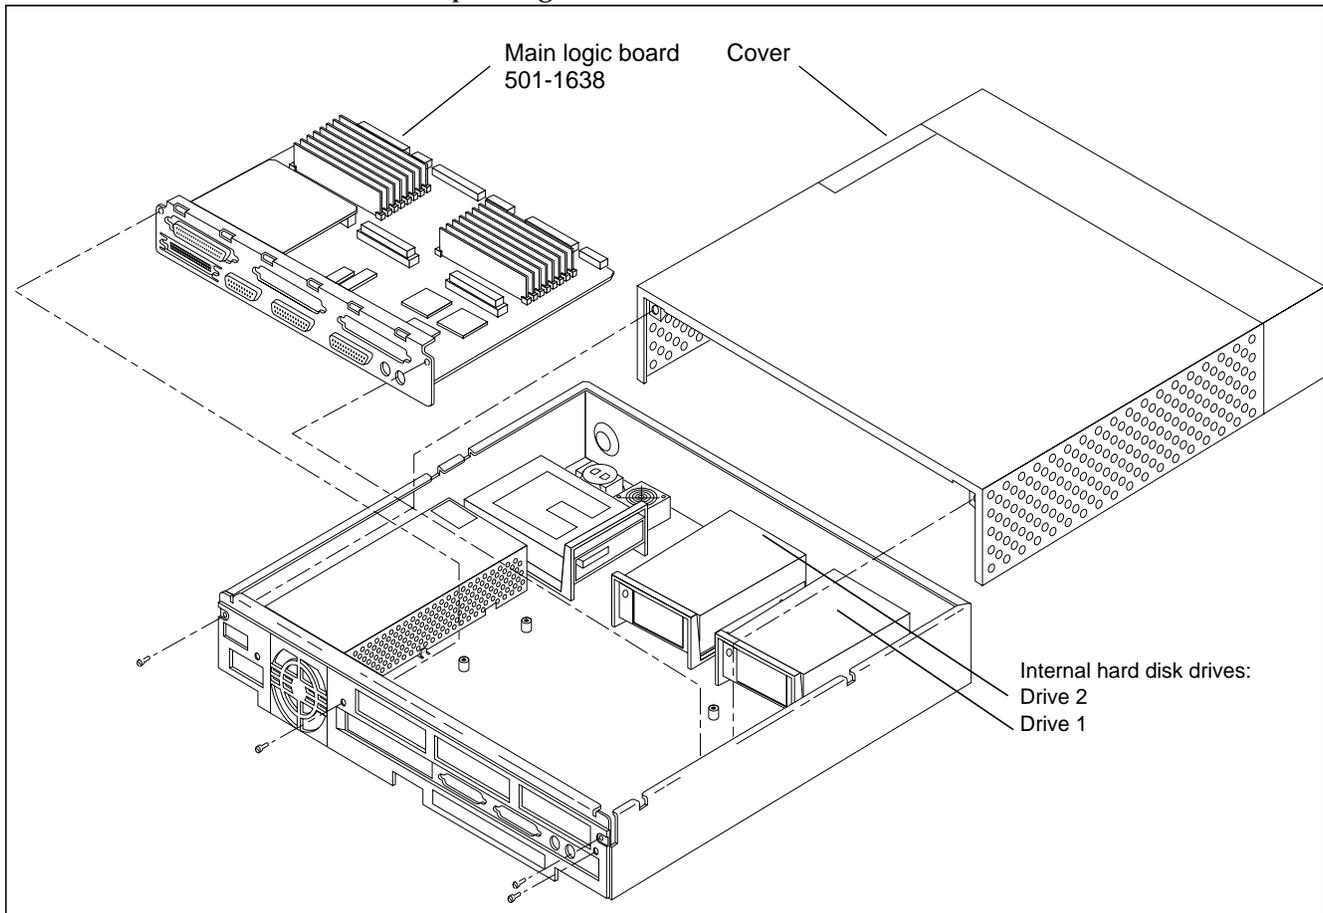
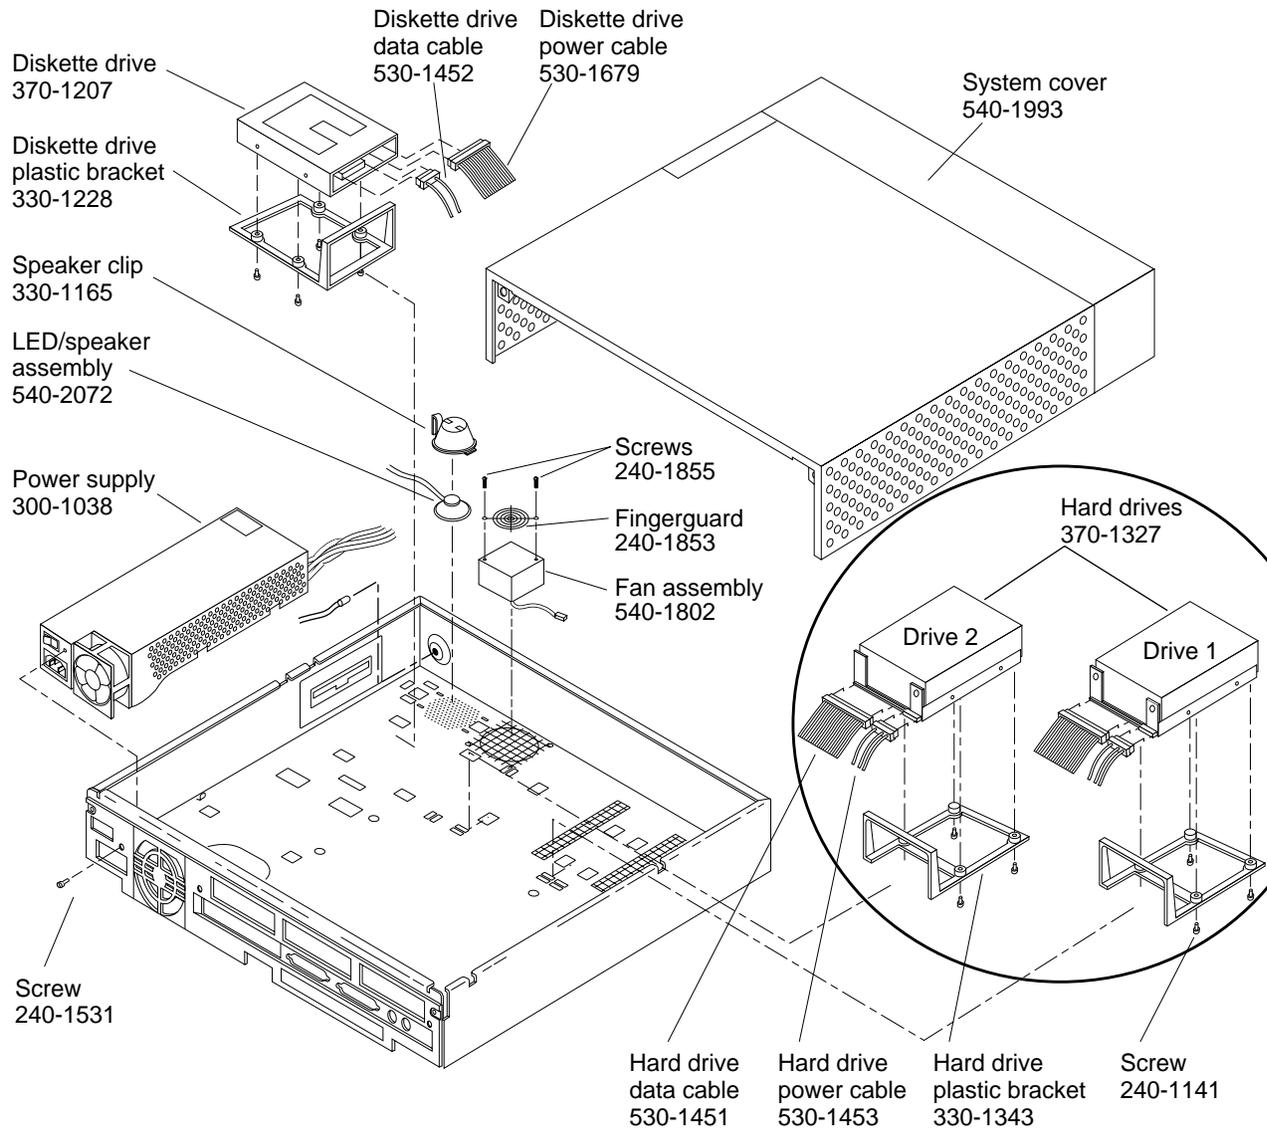

Figure 2-1 Exploded View of the System Unit
Figure 2-2 Exploded View of the System Unit Showing Internal Hard Drives
Before you attempt to replace or install a new internal hard disk drive, make sure that you have the right unit. Hard disk drives can be located in the center and left side of the front of the System Unit chassis (See Figure 2-1 and Figure 2-2).
- 2. Disconnect the hard disk drive power and data cables from the main logic board (These are identified in Figure 2-2).**
- 3. Remove the power and data cables from the old drive, and connect them to the replacement drive. The power and data cables are keyed so they will only fit one way (See Figure 2-2 on page 2-3).**
- 4. Remove the power and data cables from the old drive, and connect them to the replacement drive. The power and data cables are keyed so they will only fit one way (See Figure 2-2).**